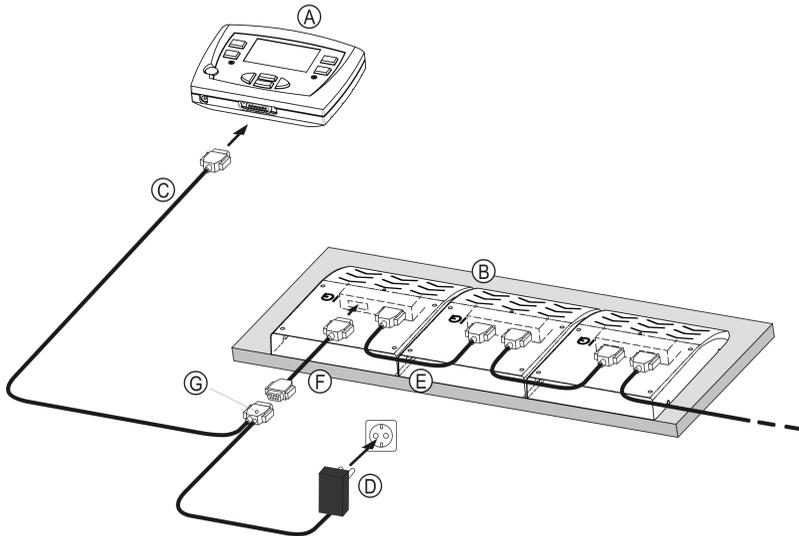
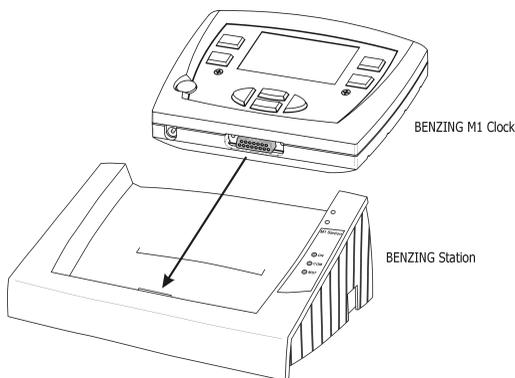

Figure 3.1 – Fancier system BENZING M1 with 1-field G2 Antennas
Figure 3.6 - Plugging the BENZING M1 into the BENZING Station
In a loft first the provided M1 Fancier Cable will be connected to one loft antenna (PLB or G2 Antenna) and then the remaining loft antennas will be connected (see figures 3.1 to 3.3). Another possibility is to connect the cable to a BENZING Antenna Controller where EFA loft antennas are then connected to.
- After having plugged in the power supply unit, the green LED display "Power supply" on the plug of the M1 Fancier Cable must light up (see (G) in figure 3.1). This indicates that the power supply is correctly provided.
- Before plugging in the power supply unit please check if the installation corresponds to figure 3.1. Make sure that before connecting the BENZING M1 to the mains humidity has not found its way into the case of the BENZING M1 and that the device is being operated according to the conditions of use mentioned in section 3.1.
- ① Additional Power Supply. But it is recommended to apply power as near to the loft antennas as possible (see previous section with figure 3.1 to 3.4).
- ② DB-9 socket for connection of the PLB Antennas, the G2 Antennas or the **BENZING** Antenna Controller with EFA Antennas.
- ③ PMDIN socket for existing (older) components (SAN, INN, CNN, ANN etc.).
- ④ Parallel printer port for connection of conventional printers.
- ⑤ DB-9 socket for connecting a mobile phone or GSM modem.
- ⑥ DB-15 socket for connection with the **BENZING M1**. The **BENZING M1** is plugged into the **BENZING Station** as shown in figure 3.6.
The power supply for the BENZING M1 at the loft is provided by connecting the BENZING M1 Power Supply Unit to the DB-9 plug of the M1 Fancier Cable. See also figures 3.1 to 3.4.